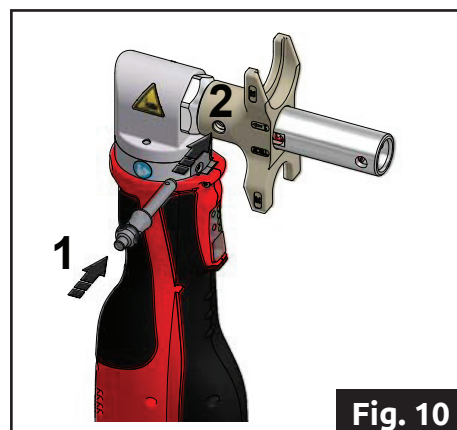

Fig. 10
4. Align the pusher adaptor with the guide rod such as to ensure that the transverse holes are on the same axis (fig. 10).
5. Lock the pusher adapter in place with the bolt (fig. 10). To do so: